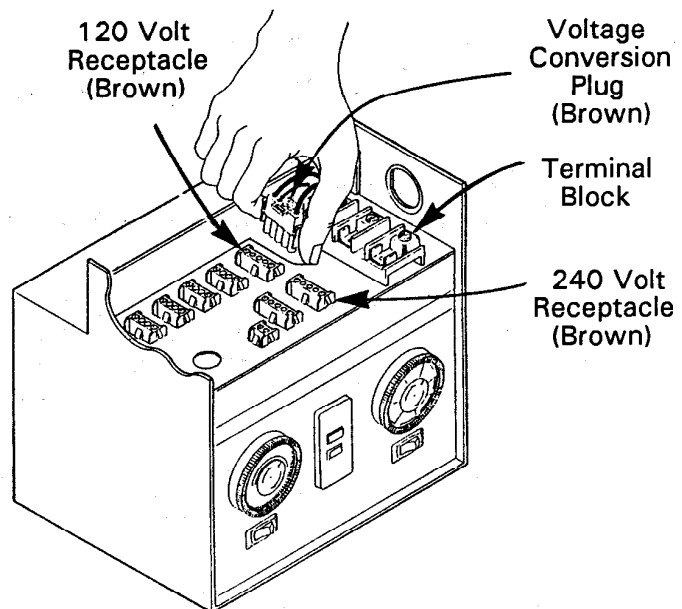

Figure 2
5. For 240 volt installations **ONLY**, the voltage conversion plug, located beneath the Wiring Access Panel, must be removed from the 120 volt receptacle and plugged into the 240 volt receptacle, as shown (Figure 2). To disconnect plug, squeeze locks on side of plug and pull straight out.